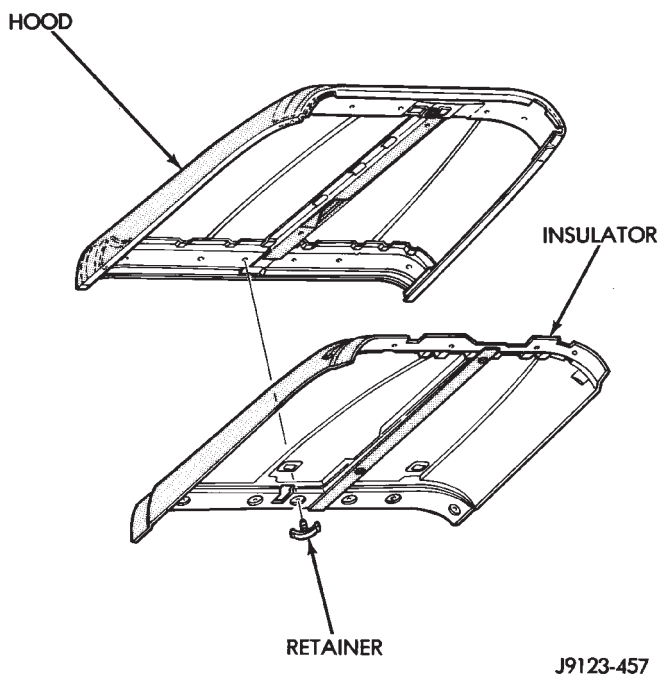

Fig. 13 Hood Insulator Panel
(1) Raise and support the hood.
(2) Remove the insulator panel retainers (Fig. 13).